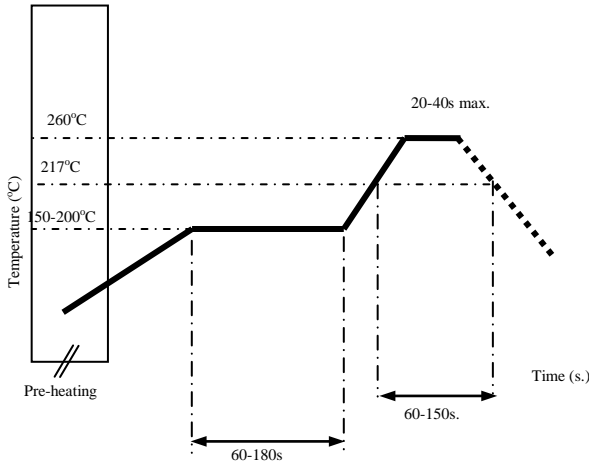
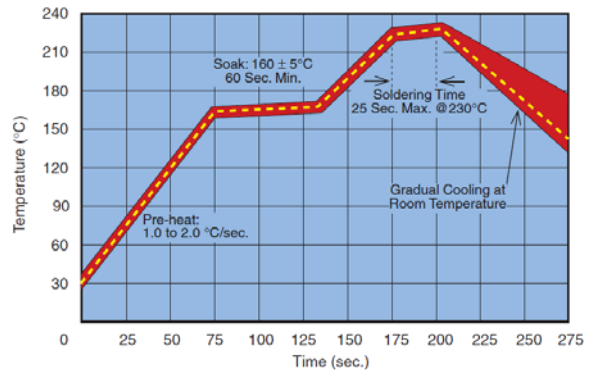

Figure 1: Solder Reflow Profile for Ceramic Capacitors and Inductors (JEDEC J-STD-020C compatible)
Figure 5: Solder Reflow Profile for LASERtrims®
*LASERtrim® Capacitors* -Offered with gold flashed nickel-barrier terminations only. Due to the unique internal construction of the LASERtrim® it is recommended that a conservative reflow temperature profile be used (Fig. 5). Wave soldering is discouraged.
The general term "reflow" refers to several methods used in heating the circuit so that solder paste reflows, or "wetting" of the ceramic capacitor and PCB contacts occurs. These methods include infrared, convection and radiant heating. The size of the solder fillet may be controlled by varying the amount of solder paste that is screened onto the circuit. Recommended temperature limits and times for solder reflow are shown in Figure 1 and 2 for Ceramic Capacitors and inductors and for LASERtrim® in Figure 5.